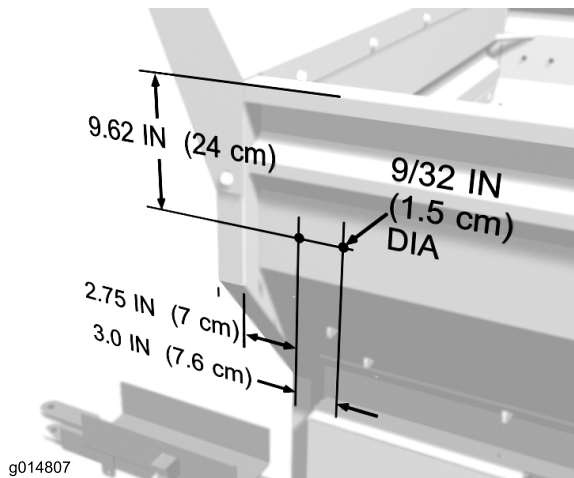

Figure 1
2. Using the dimensions shown in Figure 1, locate mark and drill (2) 9/32 inch (1.5 cm) diameter holes in the left front side of the hopper. Repeat the procedure on the right side of the hopper.